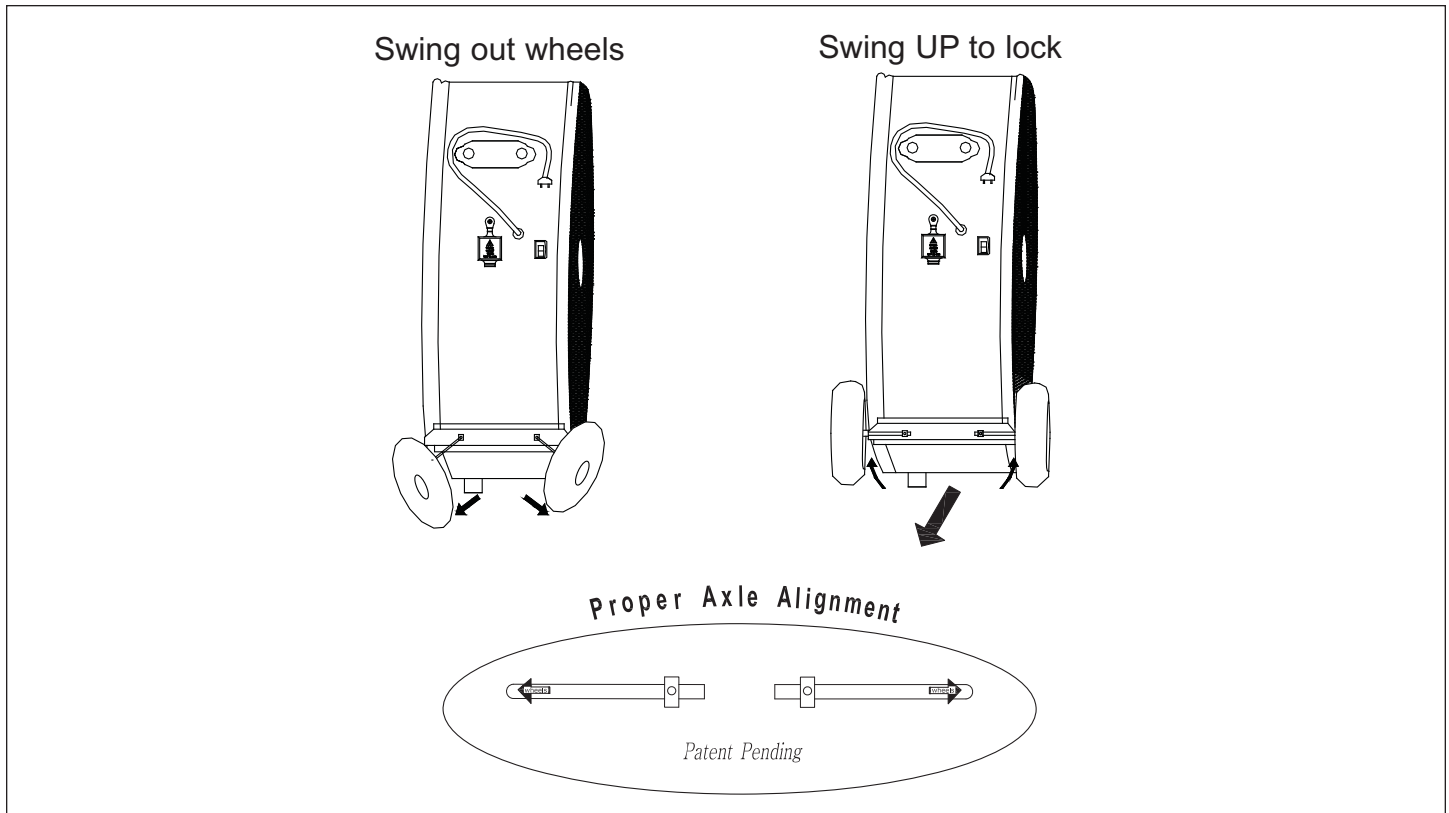

figure 1: Wheel Assembly
**NOTE:** This fan uses a folding wheel design. For quick assembly, simply swing the wheels out and snap to lock in place ( see figure 1).